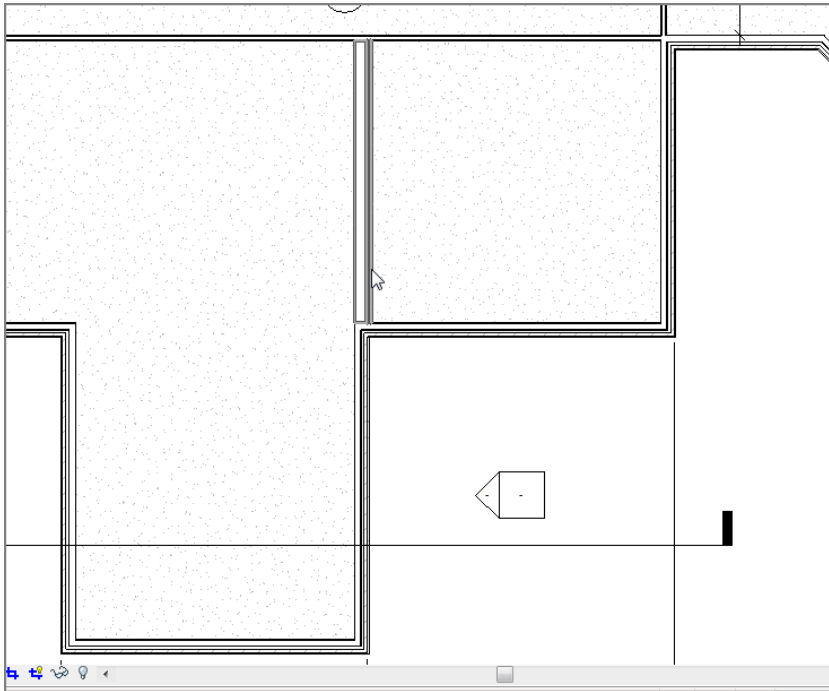

FIGURE 16.24: Adding the new stacked wall to the model
17. Draw the wall in the west wing, as shown in Figure 16.24. (If you wish, you can create an elevation or cut a section through the wall.)